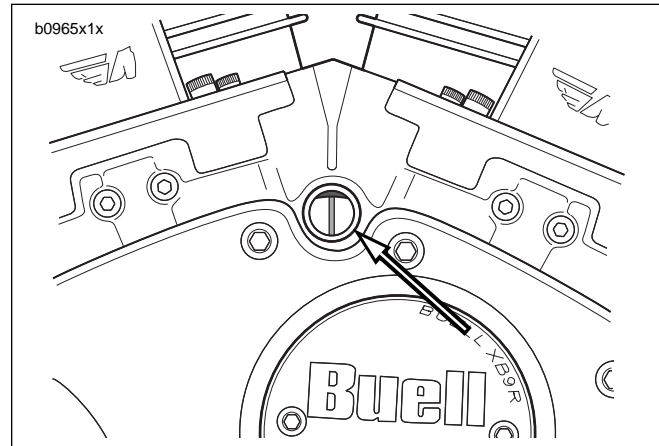

Figure 1-50. Correct Timing
9. See Figure 1-50. If the static timing is correct, the screen will switch to HIGH - 5 volts at the precise moment the timing mark exactly centers in the inspection window.